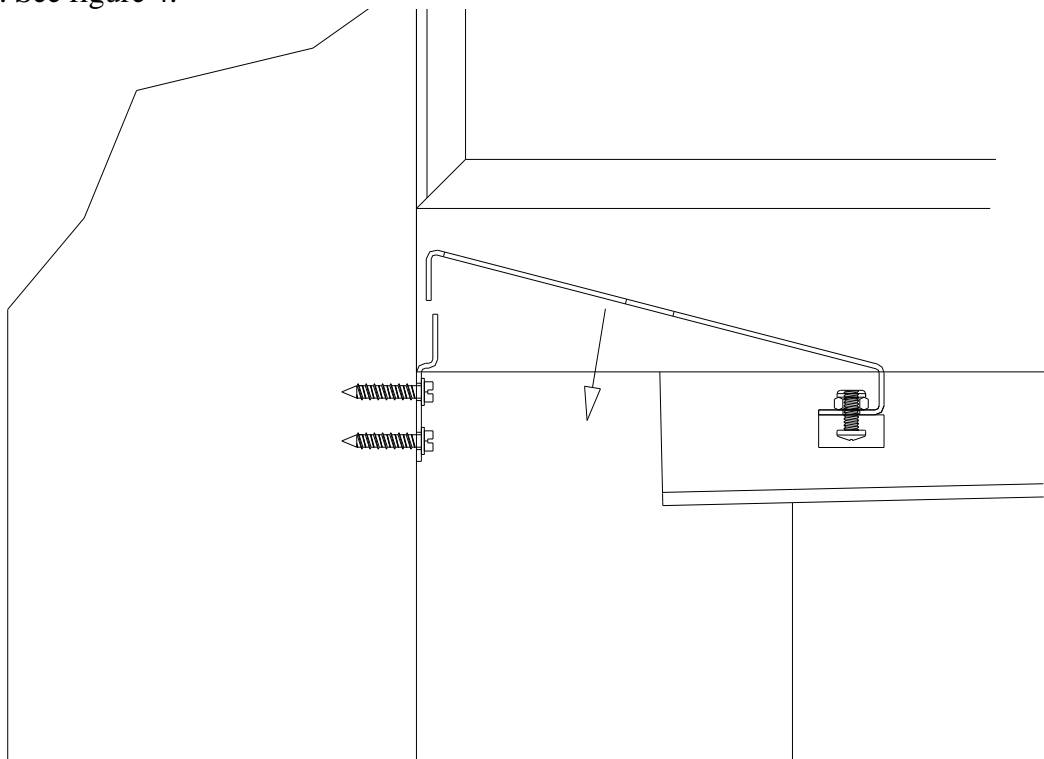

Figure 4.
- Place the gutter cover onto the brackets and lower until the rubber floor protectors touch the floor. See figure 4.